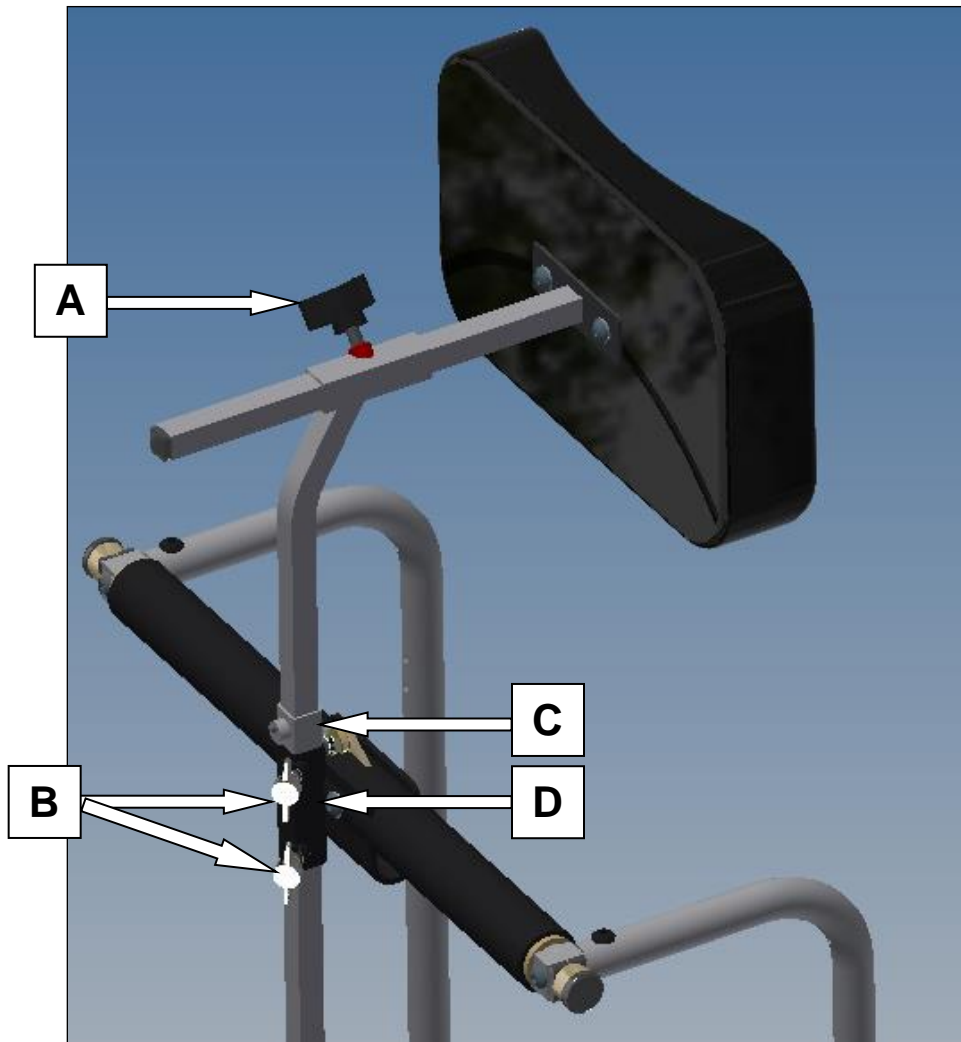

Figure 26-A: Height and depth adjustable head support
Turn the handle (A) to adjust the depth of the head support, then turn the two handles (B) to adjust the height (see Figure 26-A).